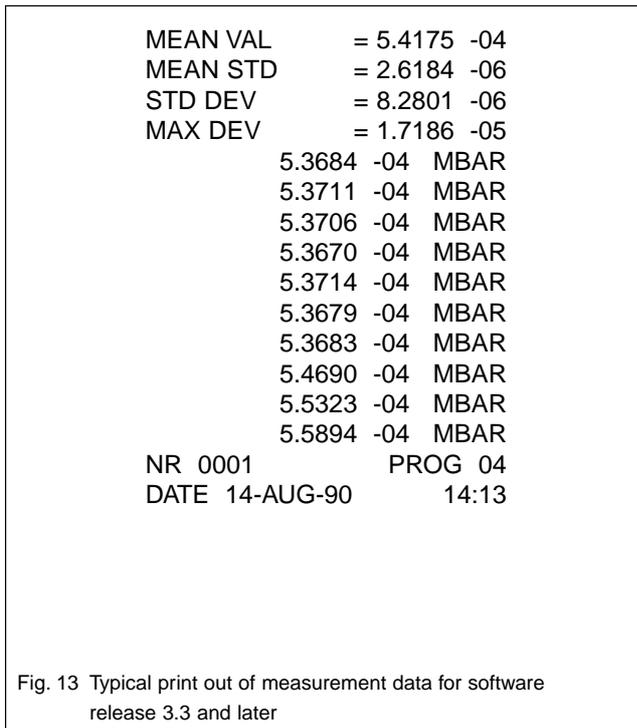
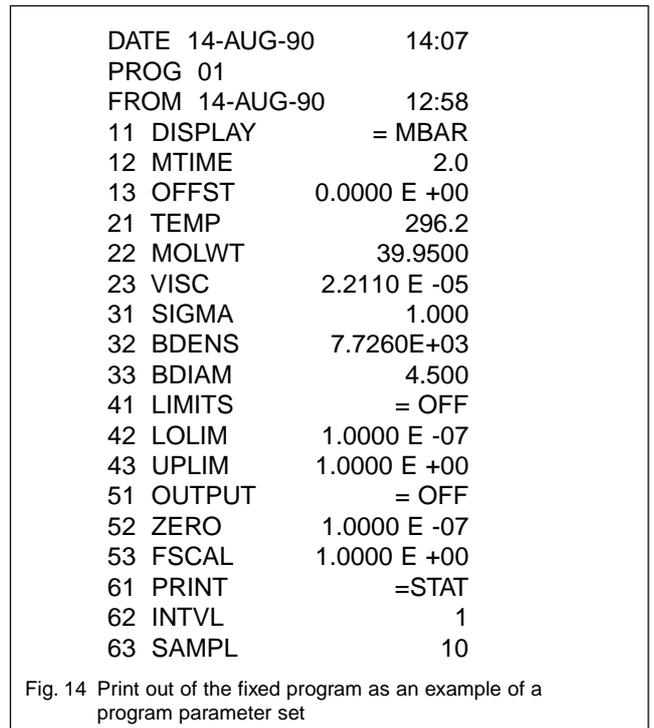

Fig. 13 Typical print out of measurement data for software release 3.3 and later
Fig. 14 Print out of the fixed program as an example of a program parameter set
These parameters are the program parameters. A set of these parameters is called „The program“. Shown in Fig. 14 is an example of a print out of the fixed program described in Section 2.6.7. The parameters are explained in the following according to the groups mentioned above.
- Also, each time the printer is activated the current date is output, for example DATE 22-MAY-1990 (see also Fig. 13 and Fig. 14).